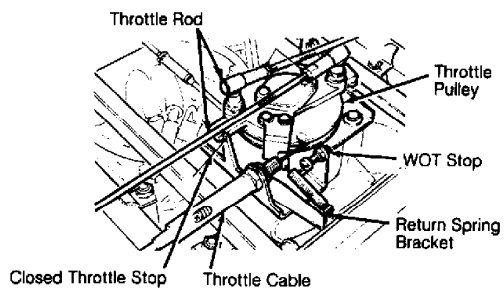

Fig. 9: Locating Green Test Connector (929 DOHC)
1) Connect jumper wire between ground and Green 1-pin test connector near left shock tower. See Fig. 9. Connect tachometer to White 1-pin test connector near left shock tower.